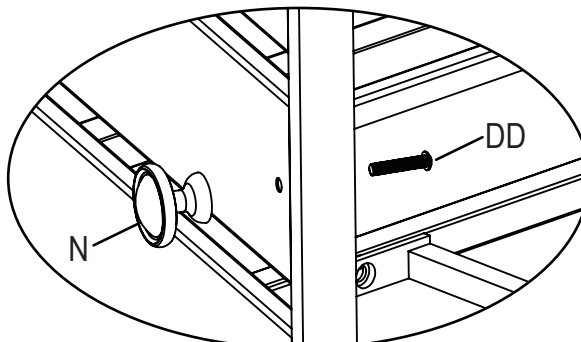

Figure 8
8. Attach the door handle (M) to the door panel (C) with the bolt (DD) using a Phillips screwdriver (NOT included), (see Figure 8).